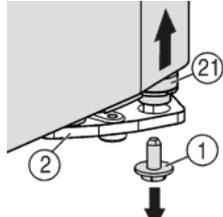
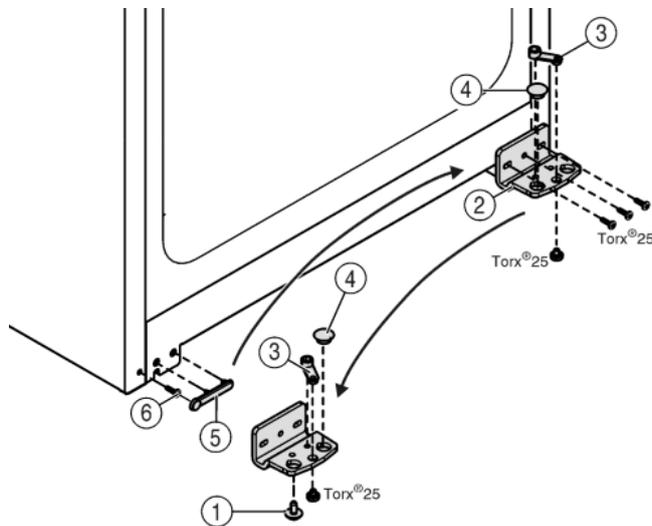

Fig. 4
Fig. 5
- ▷ The bearing pin Fig. 4 (21) should come out of the turn hinge Fig. 5 (2).
- If the bearing bolt Fig. 4 (21) doesn't undo press it out from underneath.
- Unscrew the turn hinge Fig. 5 (2).
- Unscrew the bearing element, Fig. 5 (3) transfer it to the opposite location hole of the turn hinge and screw it firmly into place.
- Take the stopper Fig. 5 (4) out of the turn hinge and transfer it to the receiving hole on the opposite side of the turn hinge.
- Carefully lift off the cover Fig. 5 (5) on the handle side.
- Undo the screw Fig. 5 (6) and transfer it to the opposite side.
- Put the cover Fig. 5 (5) back on.
- Screw the turn hinge Fig. 5 (2) firmly into place on the new hinge side (with 4 Nm), possibly using a power screwdriver.
- Insert the securing screw Fig. 4 (1) at the bottom into the bearing pin and tighten it (with 4 Nm).